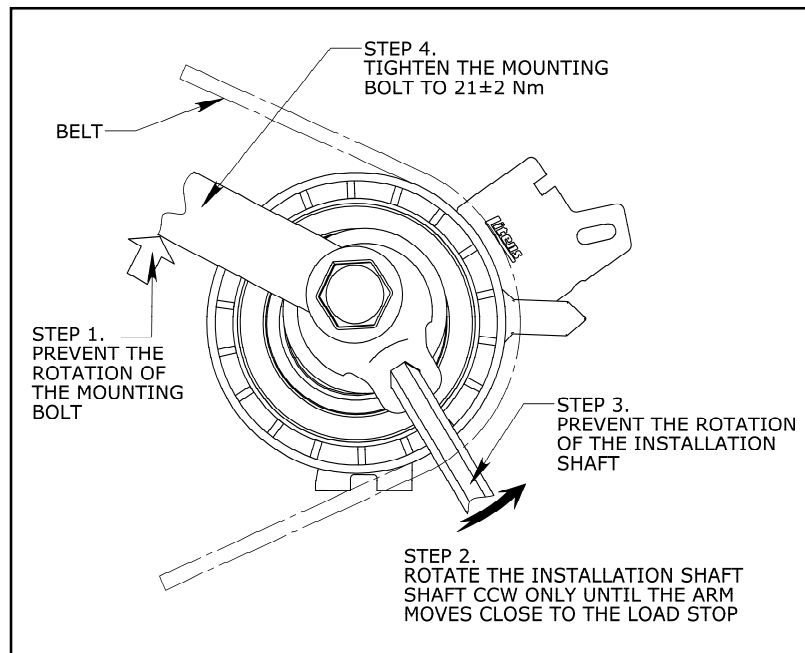

Figure 5. Tensioner shown at maximum arm travel.
10. Engage the 6mm Allen Key into the installation shaft Hex Hole and rotate counterclockwise only. The tensioner assembly will move against the belt and the arm pointer will eventually start to move **CLOCKWISE** (Fig. 5).
11. Continue rotating the installation shaft with the 6mm Allen Key until the arm pointer moves beyond the notch on the base plate and reaches a position close to the load stop without touching the load stop. Lock the tensioner in this position by tightening the mounting bolt to **21±2 Nm** (Fig. 5).